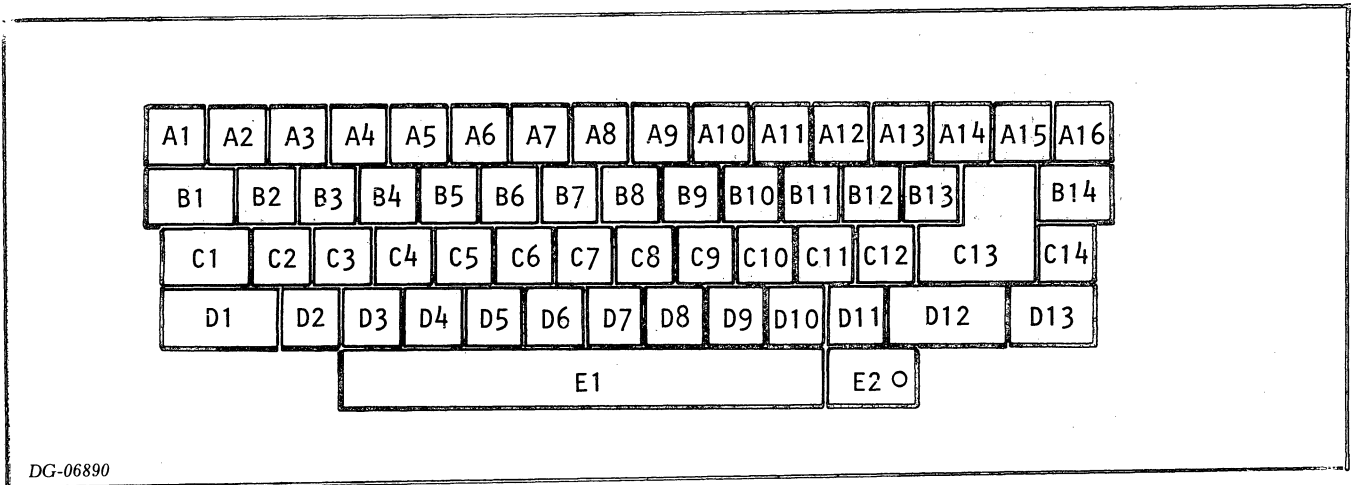

Figure 8.4 Keycap locations
2. Replace and reposition the appropriate keycaps as shown in figures 8.4 through 8.10. Using the applicable figure, locate each keycap that must be changed on the new keyboard, and replace or reposition the keycaps as follows: